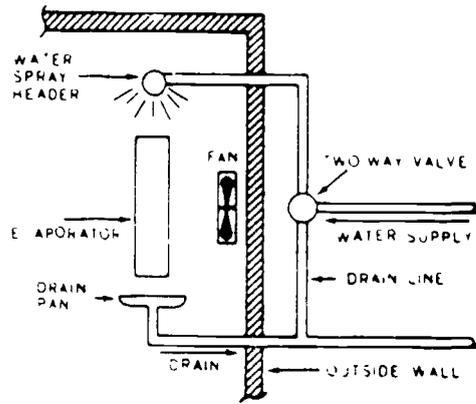

Figure 3. Water Defrost System
**Water Defrost System.** Figure 3 illustrates the water defrost system. The equipment includes a spray header, drain pan, two-way valve, necessary piping, and in some cases, warm water tank and pump. When the valve is in the normal position no water can go to the spray chamber but any water in the pipes can flow to the drain. This prevents the freezing of water in the spray chamber or pipes. By placing the valve in the defrost position, water is allowed to flow to the spray chamber. The water then flows down over the evaporator melting the ice. After the defrost is completed the valve is returned to the normal position. It is necessary that the compressor and evaporator fan be turned off during the defrost period.